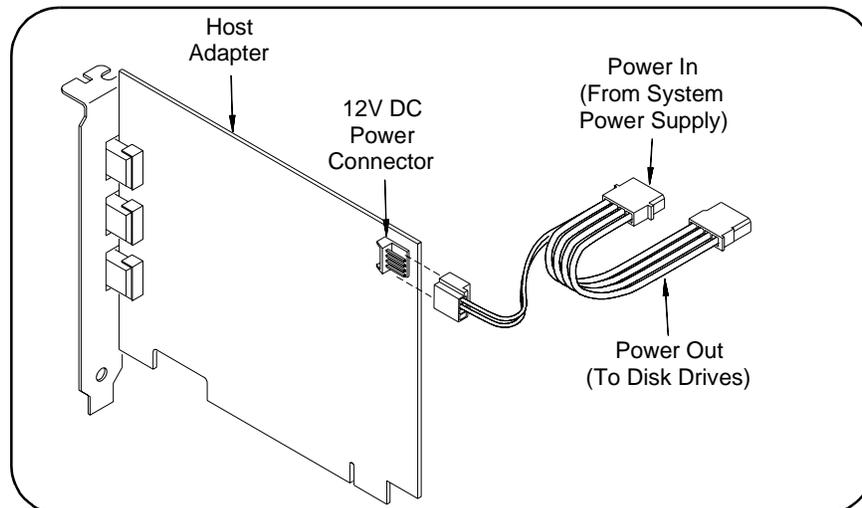

Figure 2-5. Connecting the Power Cable Between the PC and the Host Adapter.
6. Connect the power cable between the adapter and the PC as shown in Figure 2-5. This provides power from the adapter to devices along the interface via the interface cable. This allows you to cycle power on any VXI mainframe in multi-frame systems without affecting other frames. The power is also available to other IEEE 1394 devices that may be part of the interface network. The host adapter is capable of supplying 12V with a maximum current draw of 0.5 amps total to all three IEEE 1394 connectors.